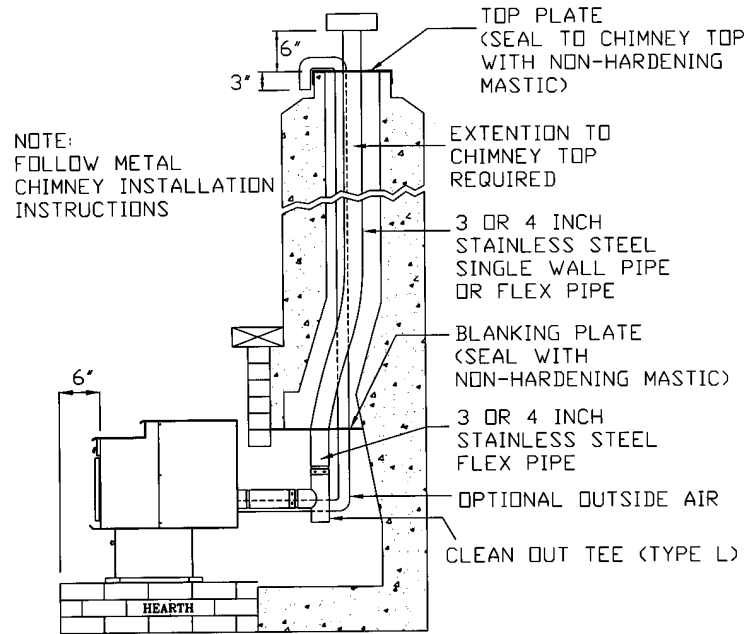

FIGURE 11
3. Install a blanking plate and the chimney pipe, and if used the outside air pipe, as shown in Figure 11.